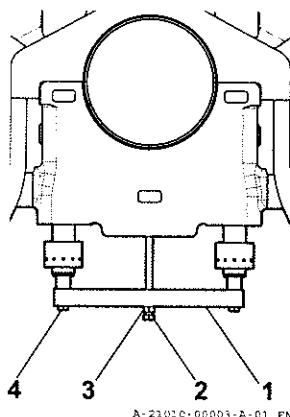

Fig. 1 Installing the drawing-out tool
7. Lock the body 1 of the drawing-out tool with the bolt 4 to the main bearing cap bolt. (Refer to Fig. 1.)